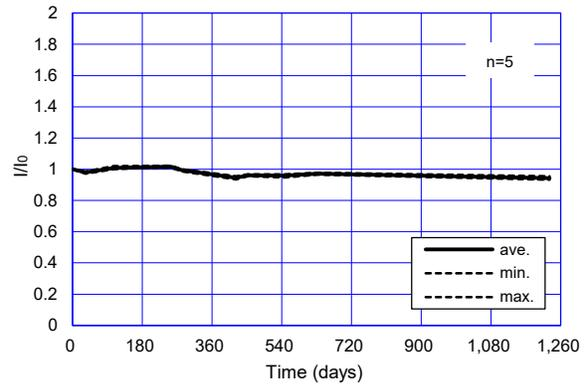

Fig. 8 - Long term stability of FECS50-100
Figure 8 displays long term stability data of FECS50-100 showing the sensitivity to 10ppm of H2S measured using the basic measuring circuit. The Y-axis shows the ratio of output current in 10ppm of H2S at any point in time (I) over output current in 10ppm of H2S on the first day of the test (I0). Sensors were stored unenergized in normal air between each measurement day. This chart demonstrates very stable characteristics for more than 2 years.